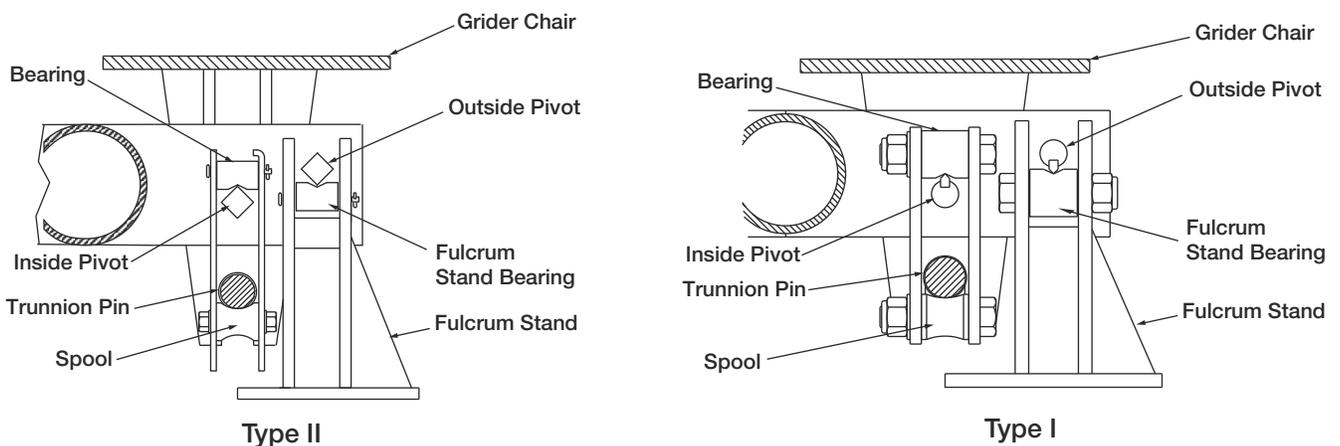

Figure 2-3. Fulcrum Stand Assembly
5. Set pipe levers in place with outside pivots on bearings of fulcrum stands (see Figure 2-3) with nose irons supported by center connection shackle in load cell stand.